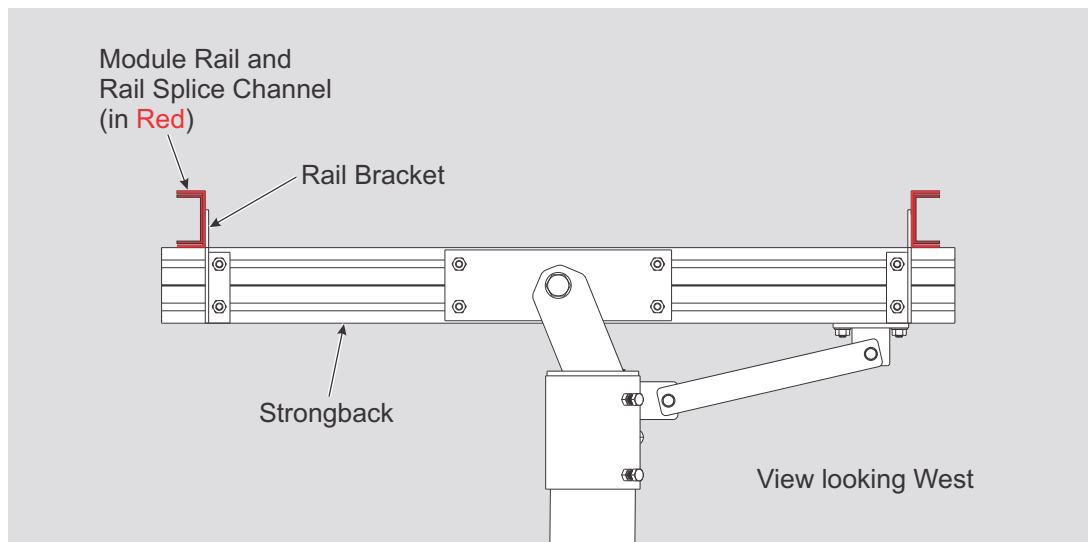
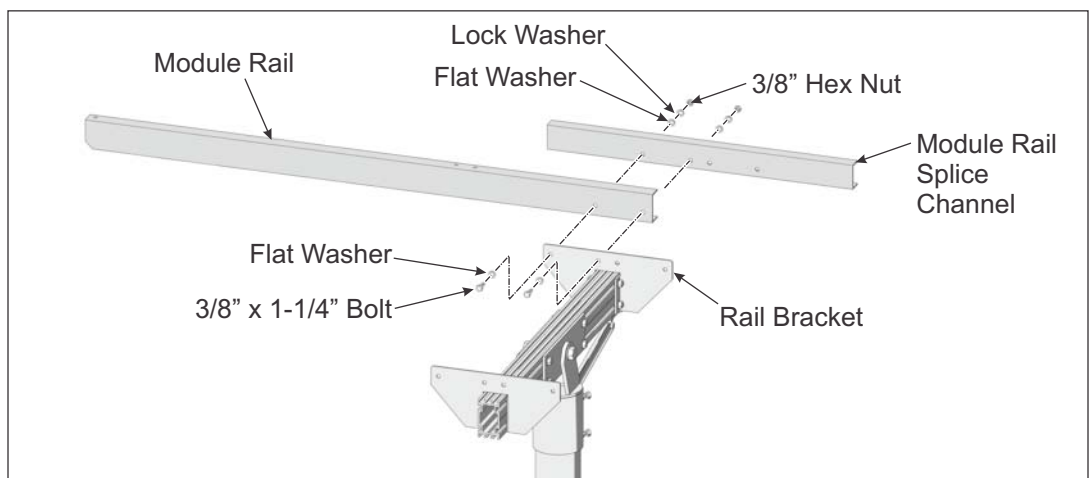

Figure 3-1: Orientation of Module Rails to Rail Brackets
Figure 3-2: Installing First Section of Module Rail to Rail Brackets
Module Rail orientation is dependent on location. Follow these instructions carefully for the correct orientation. (See Figure 3-1)
- A. Referring to Figure 3-1 for orientation of the Module Rails, position the first section of Rail and the Module Rail Splice Channel on the Rail Bracket. Align the set of mounting holes with the holes of the Rail Bracket and secure with 3/8" x 1-1/4" bolts and hardware. (See Figure 3-2) Finger-tighten for now.
- C. Continue in this manner and install the second set of Module Rail while following Figure 3-1 for proper orientation of the Rails to the Rail Brackets.